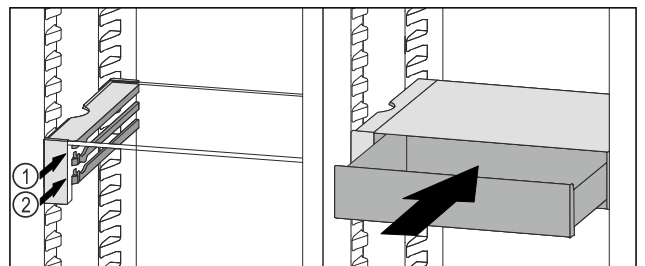

Fig. 140
- Place the VarioSafe drawer behind the stoppers on desired rib Fig. 140 (1) or Fig. 140 (2).